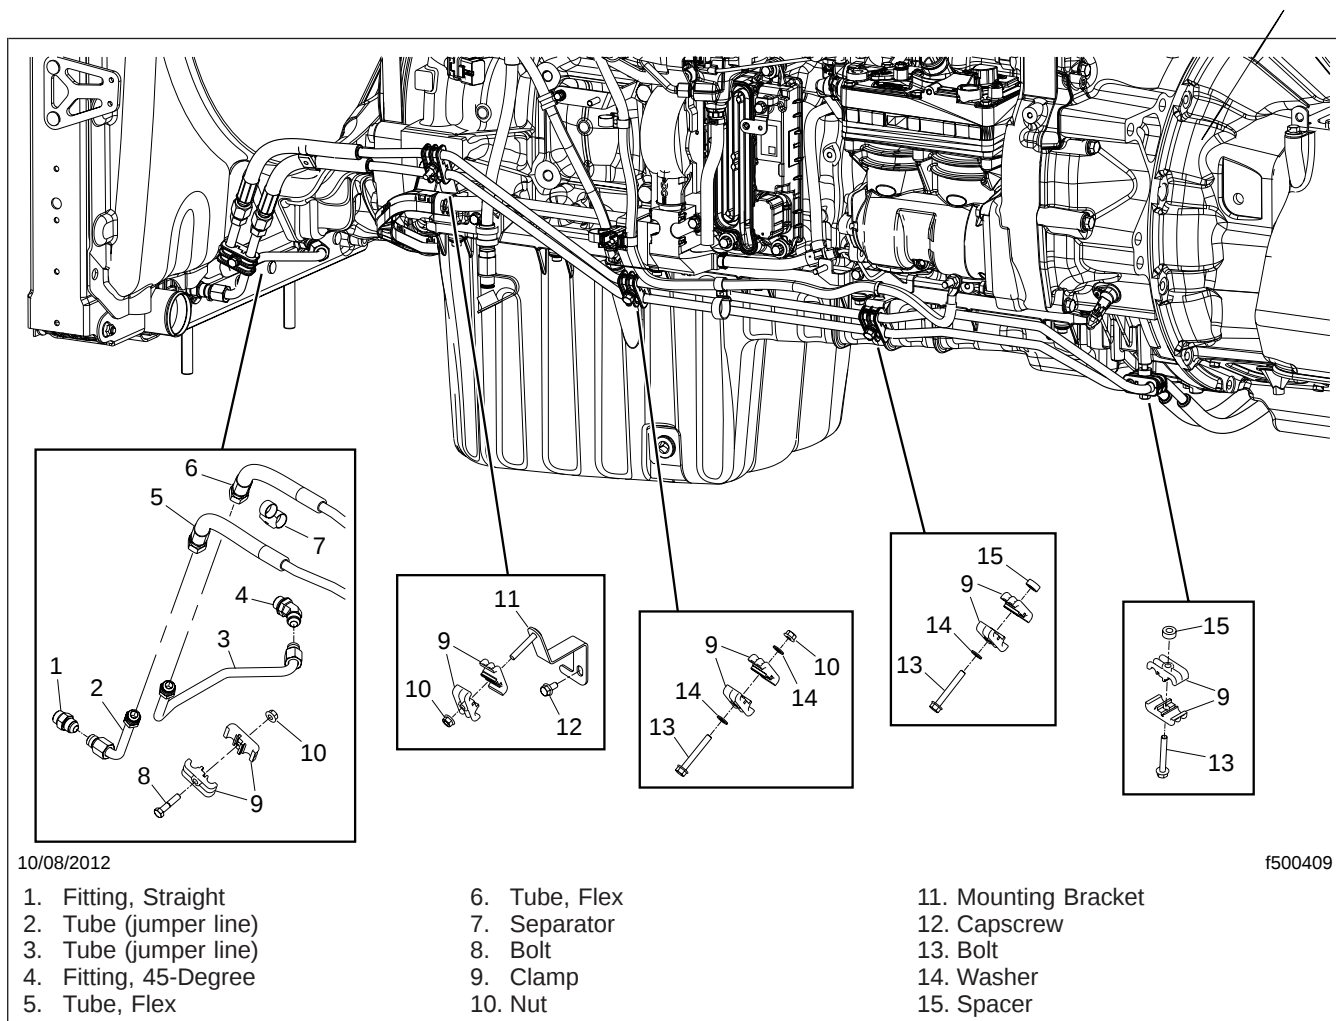

Fig. 7, Transmission Cooler Line Installation (typical)
23. Install the new transmission cooler lines from the transmission to the jumper lines on the radiator. Do not install the jumper lines at this time. See Fig. 7. For vehicle specific plumbing diagrams refer to EZWiring.